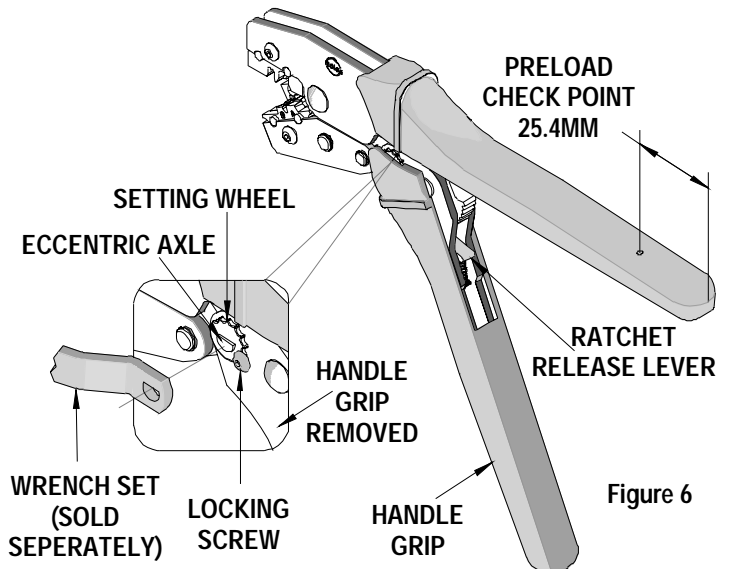

Figure 6
3. Make certain all pins; pivot points and bearing surfaces are protected with a thin coat of high quality machine oil. Do not oil excessively. The 63811-3200 was engineered for durability but like any fine piece of equipment it needs cleaning and lubrication for a maximum service life of trouble free crimping. Light oil such as 30 weights automotive oil used at the oil points shown in Figure 6, every 5,000 crimps or 3 months, will significantly enhance the tool life.
Should this tool ever become stuck or jammed in a partially closed position, **Do Not force the handles open or closed.** The tool will open easily by pressing the ratchet release lever (See Figure 6).
How to Adjust Tool Preload (See Figure 6)